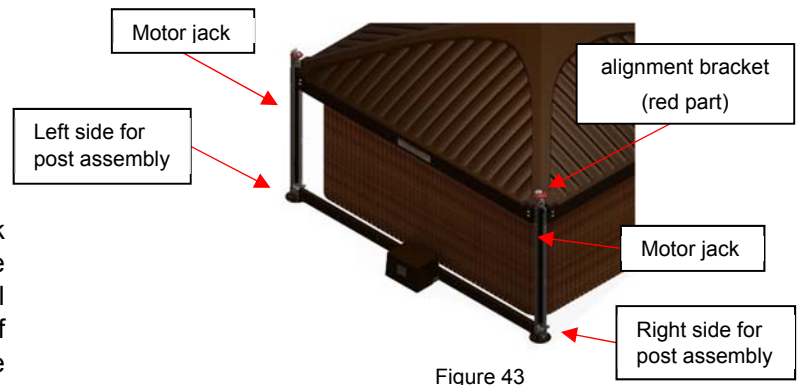

Figure 43
- 1) Put the motor frame in place, usually to the back of the hot tub entrance. Place the motor frame according to Figure 43. The standard model will need the motor frame to be on the short side of the COVANA cover, whereas the long-side model will need the motor frame on the long side of the COVANA cover.